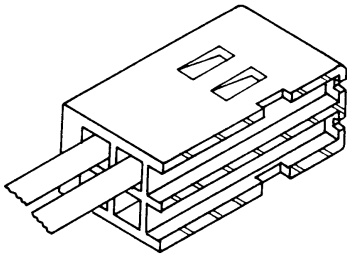

Figure 3
4. Insert the wire contact into the socket as shown in Figure 3 and 4. Check to make sure that the tang, shown as A in Figure 4, is properly latched by lightly pulling on the wire.